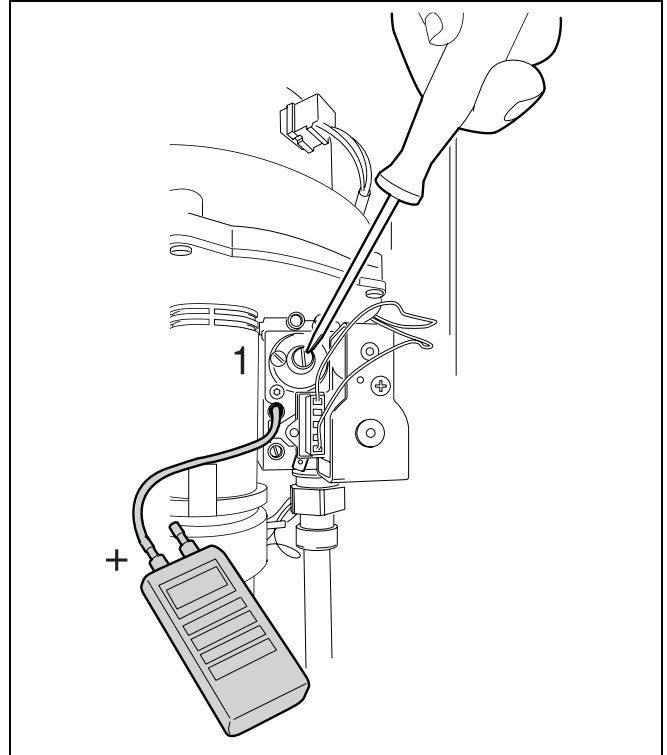

fig. 55 Adjust gas/air ratio
- Remove the safety screw with a flat head screwdriver (fig. 55, item 1).
- Replace the safety screw (fig. 55, item 1).